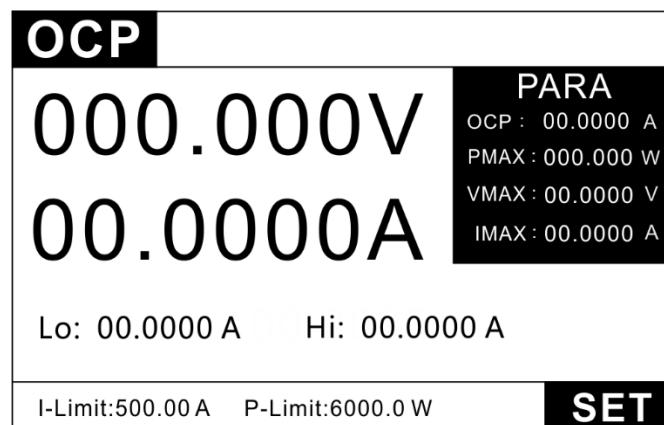

Figure 3.8 OCP test interface
2. In Figure 3.8, press the key **SET** to enter the setting interface, as shown in Figure 3.10. Use the up, down, left and right direction keys to set the parameters as shown in Figure 3.10.